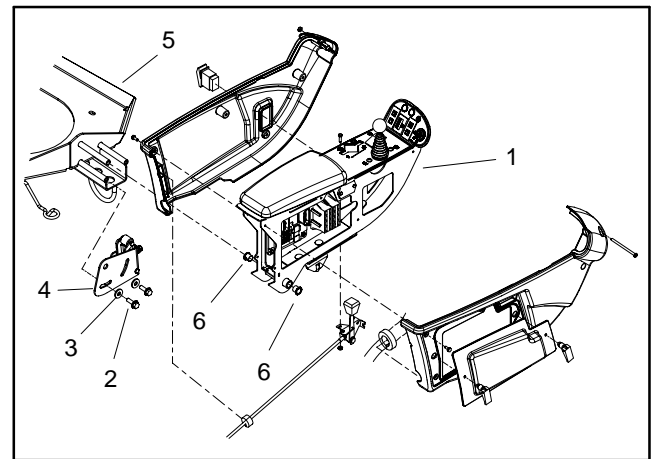

Figure 17
5. Carefully slide control arm assembly from seat base. Locate and retrieve two (2) bushings (Fig. 17). Position and support control arm assembly to allow seat removal.
6. Remove four (4) socket head screws and flat washers that secure seat and seat base to seat adjusters.